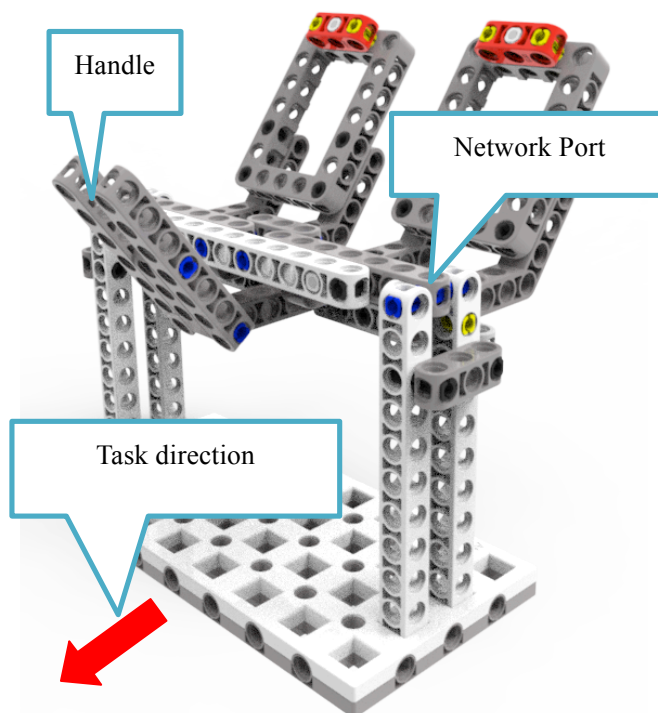

Figure 3-4-1 Information Coding Initial Status
3.4.1 Information Coding task model can be placed from Position 1 to 9 with fixed direction. Network port is disconnected, as shown in Figure 3-4-1.